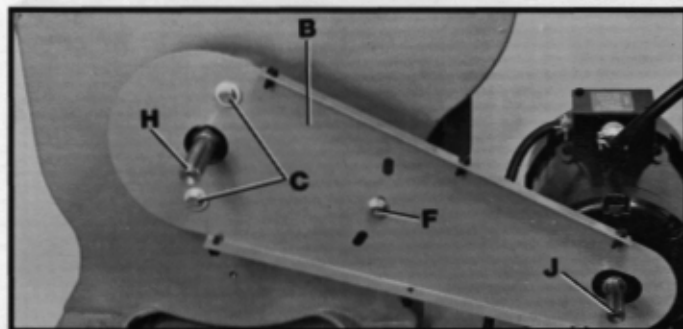

Fig. 17
4. NOTE: Make certain the arbor shaft (H) Fig. 17, and motor shaft (J) are centered in the holes of the belt and pulley guard (B) as shown, then tighten screws (C) and (F).